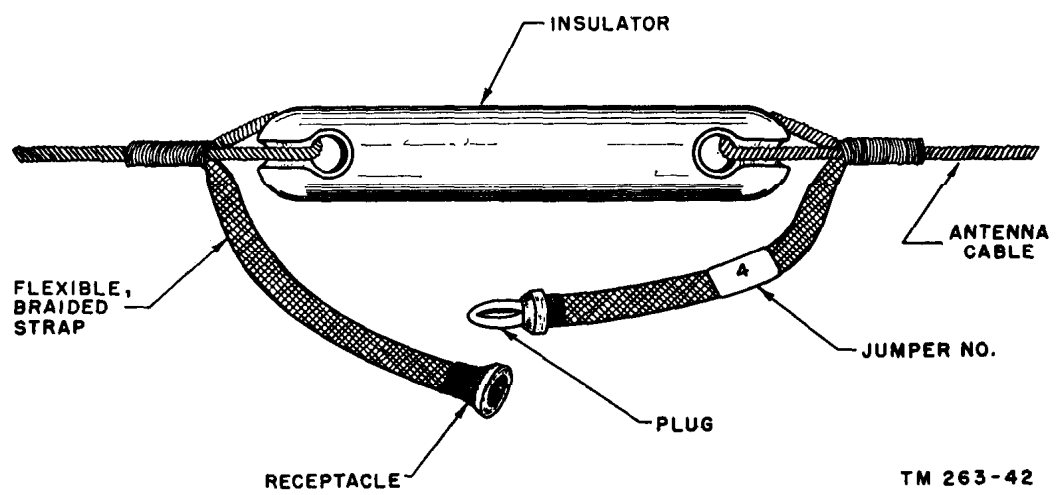

Figure 21. Typical antenna jumper.
20). The antenna chart, showing the length of the antenna required for the various frequencies, indicates which jumpers must be opened and closed for the frequencies. A typical jumper is shown in figure 21.